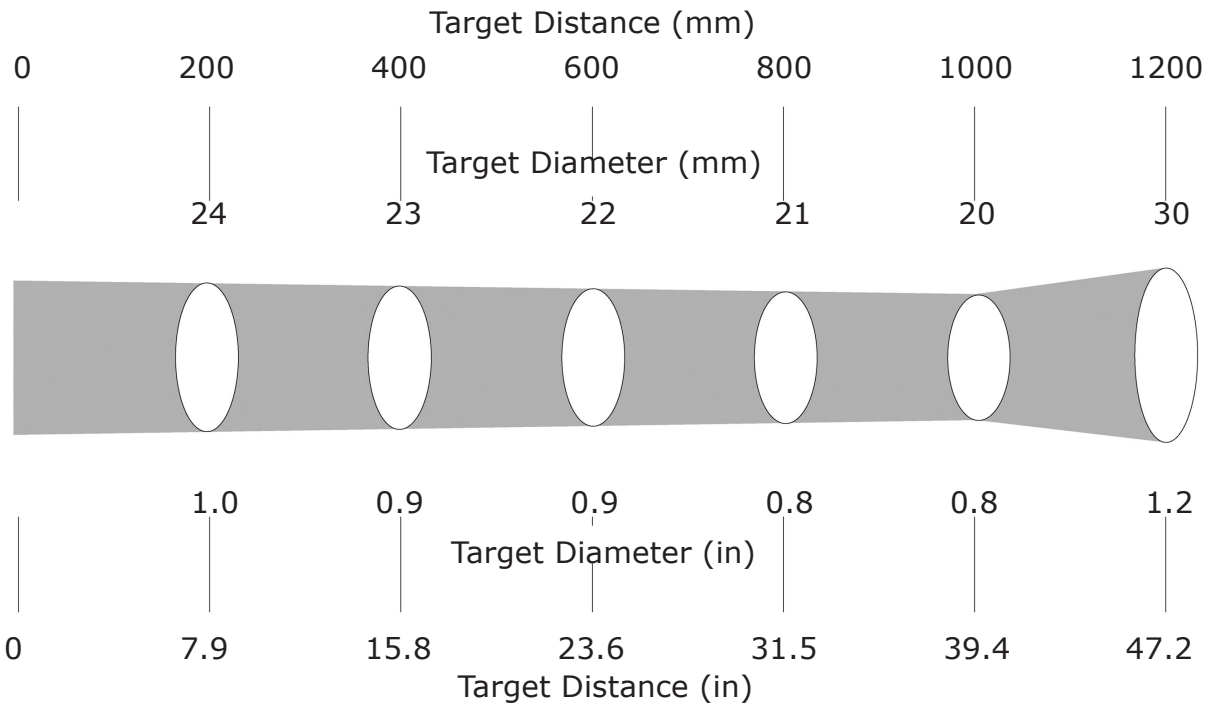

Fig. 3 Target Size Table for **FLT5B**
- 2) Refer to the Target Size Table (Fig. 3). Ensure that the target completely fills the field of view at the chosen target distance.